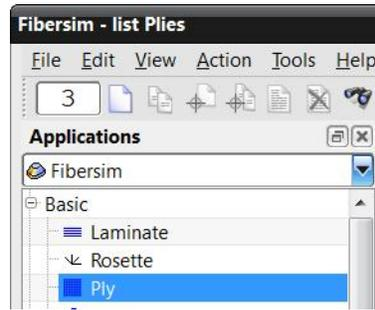

Figure 3–12
1. In *Object Count*, enter [3] as shown in Figure 3–12.